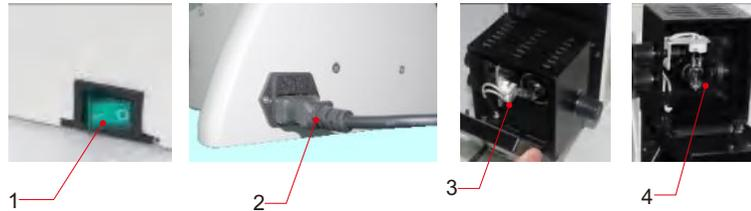

Fig.7
- (1) Turn off the power switch 1, and unplug the power cord 2.
- (2) Wait at least 30 minutes until the bulb and its surroundings have cool down. This is to prevent hand getting burnt by heat.
- (3) Catch hold of the lamp house back cover and pull out backward, take out the defective bulb 3 and replace a new one. Close the back cover again. as shown in Fig.7.
- (4) Connect the power cord and turn on power switch.
- (5) Check and adjust the center of the bulb according to the above-mentioned centering method for alignment of illuminator in the inverted microscope .